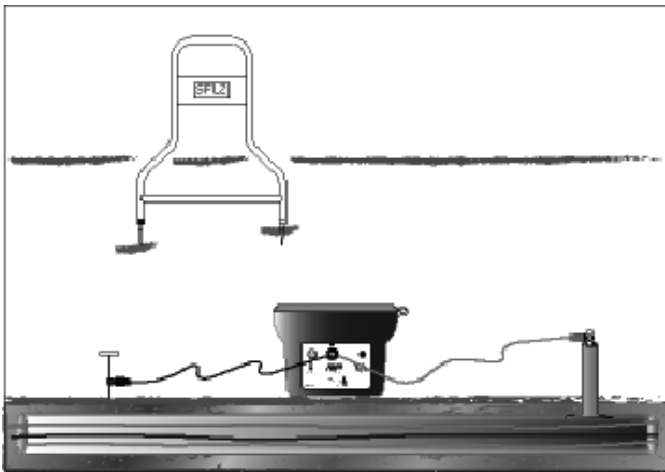

Figure 3-3: Positioning of A-5000 Receiver for Synchronization
1. Hold the A-5000 Receiver so the spike with the Black band is about two (2) steps away from the ground rod and the spike with the white band is in-line with the targeted cable. The A-5000 receiver must be placed as shown in Figure 3-3 for synchronization and for unit to operate correctly. Push the A-5000 spikes firmly into the ground. Turn the A-5000 ON. Wait until the arrow flashes.